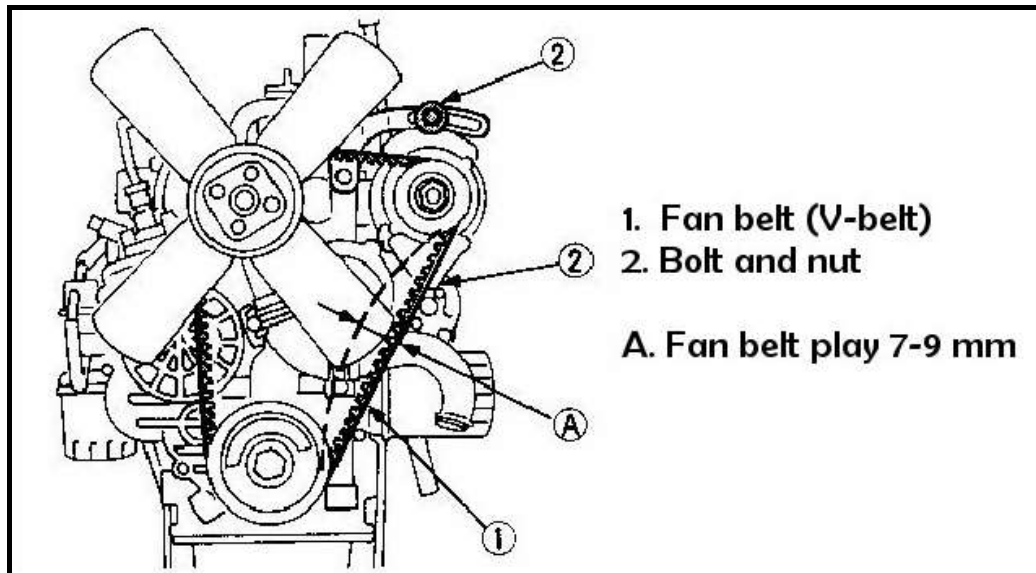

Figure 6.9 | Tighten the V-belt
3. Be sure to retighten the nuts and bolts after adjustment (see Figure 6.9).